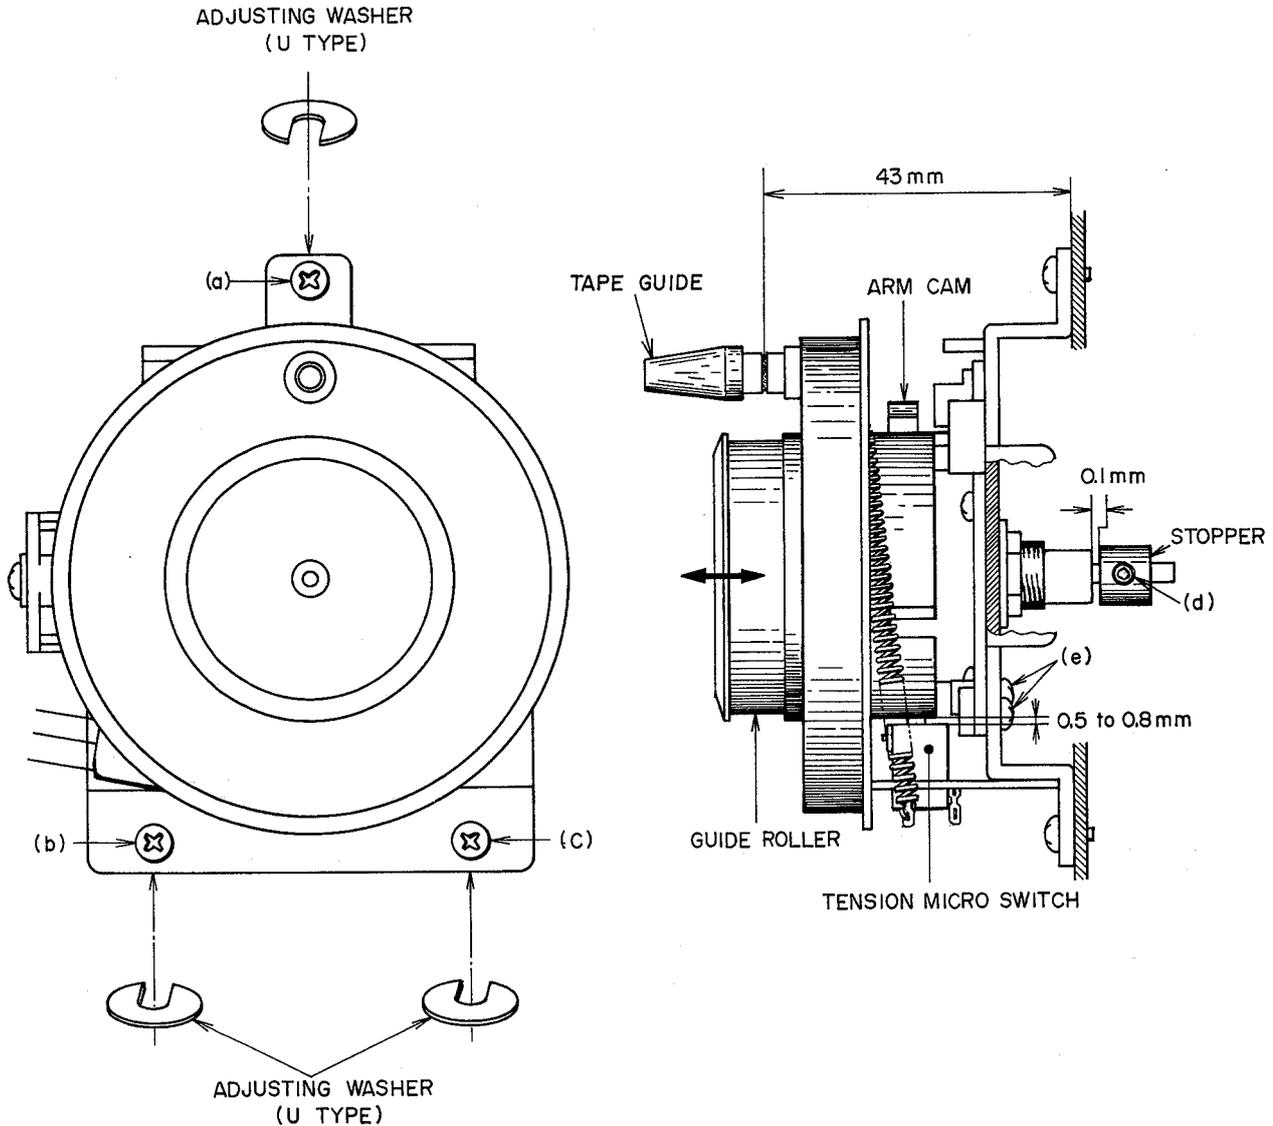

Fig. 5 Roller Block
1. GUIDE ROLLER LOOSE PLAY ADJUSTMENT (Refer to Fig. 5)
Adjust the stopper (roller pulley on the right) screw (d) so that the loose play gap is approximately 0.1 mm when the guide roller is moved as indicated by arrow mark in Fig. 5.
2. TENSION MICRO SWITCH POSITION ADJUSTMENT (Refer to Fig. 5)
3. ROLLER BLOCK HEIGHT ADJUSTMENT (Refer to Fig. 5)